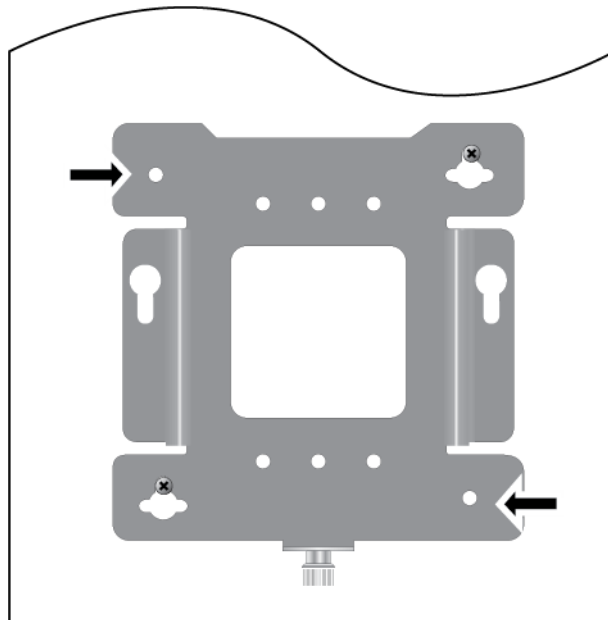

Figure 14. Pre-Drill Holes for Mounting Bracket
8. To secure the mounting bracket, pre-drill holes through the two bracket mounting holes opposite the key-hole slots. Refer to Figure 14.